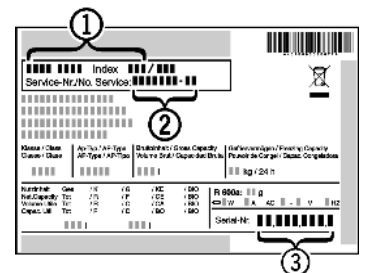

Fig. 20
- ▶ Read off the appliance name *Fig. 20 (1)*, service no. *Fig. 20 (2)* and serial no. *Fig. 20 (3)* from the model plate. The model plate can be found on the inside of the appliance on the left.